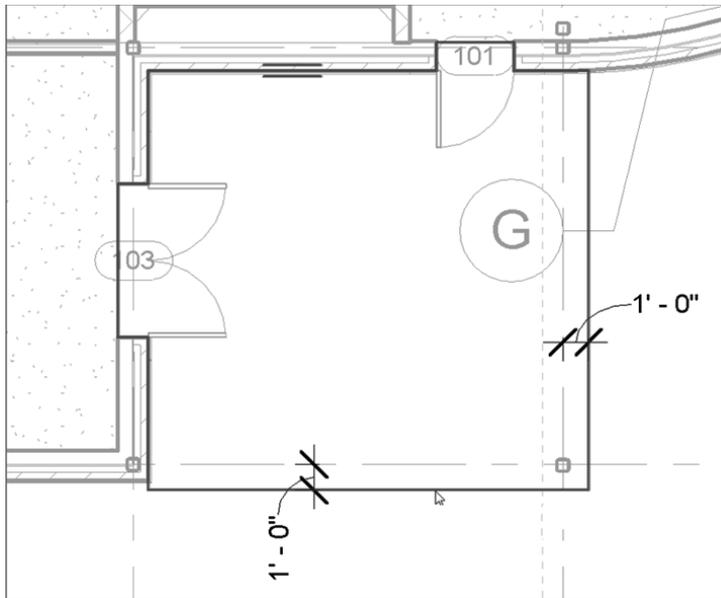

FIGURE 10.79: Sketching the slab perimeter
2. Zoom in on the radial entry of the east wing at grid intersection F-5 (see Figure 10.79).